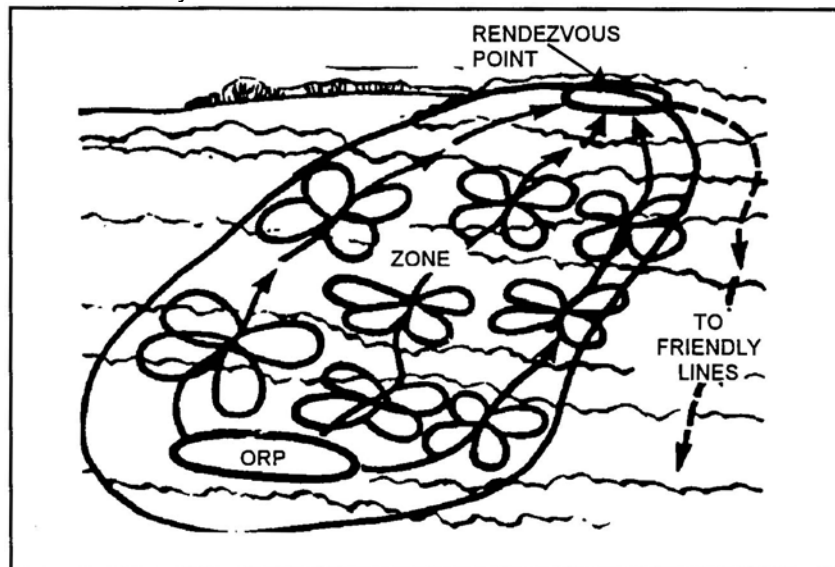

Figure 3. The converging routes method.
- (2) The converging routes method (Figure 3). In this method, the unit moves to its zone of operation. Once there, they halt at the designated ORP and establish security. The leader confirms his location and the unit is broken down into smaller elements. The leader gives each element a reconnaissance route, the location for the rendezvous point, and a linkup time at the rendezvous point. All elements depart for their designated routes. The leader